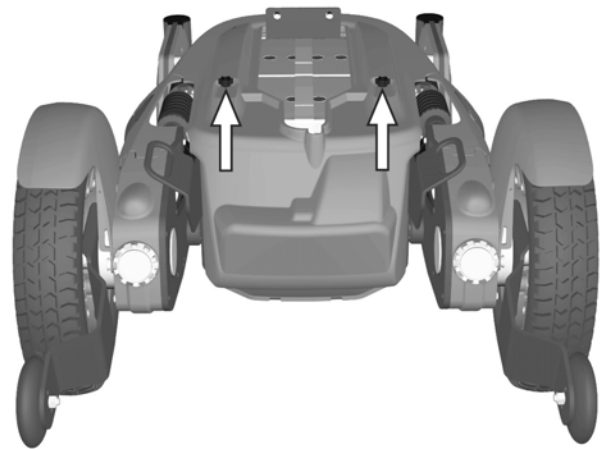

Figure 26. The chassis covers are secured with two knobs.
3. Remove the two knobs holding the chassis top- and rear-cover. See fig. 26.